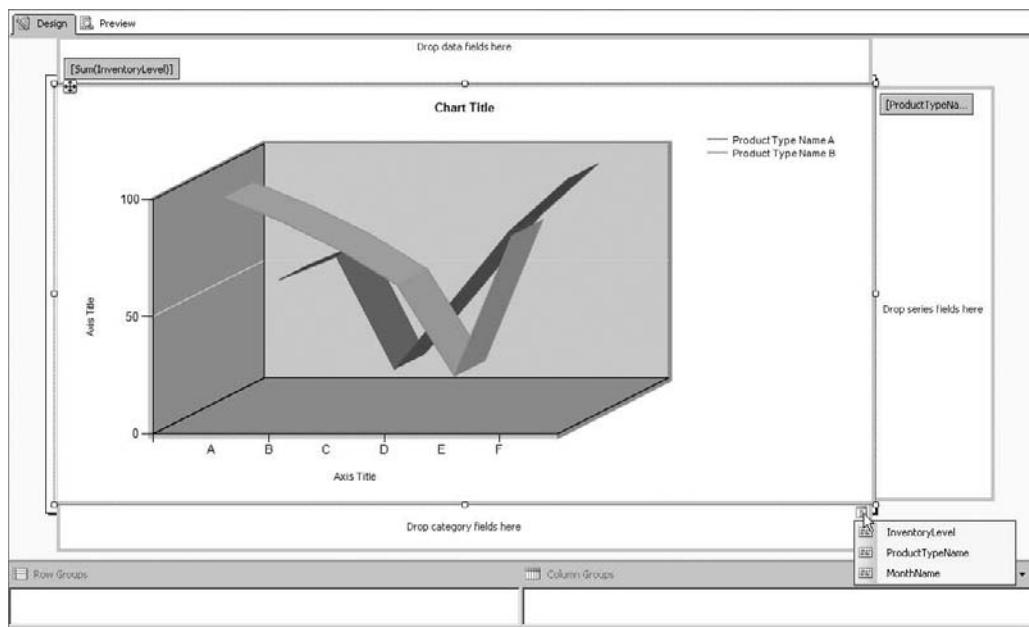

Figure 16-49 The Chart data region with a field selector
42. As an alternative to dragging-and-dropping, we can select fields from the field selector. Hover your mouse cursor over the Drop category fields here target. A small icon appears in the upper-right corner of the target area. Click this icon and a list of fields appears. This is shown in Figure 16-49.